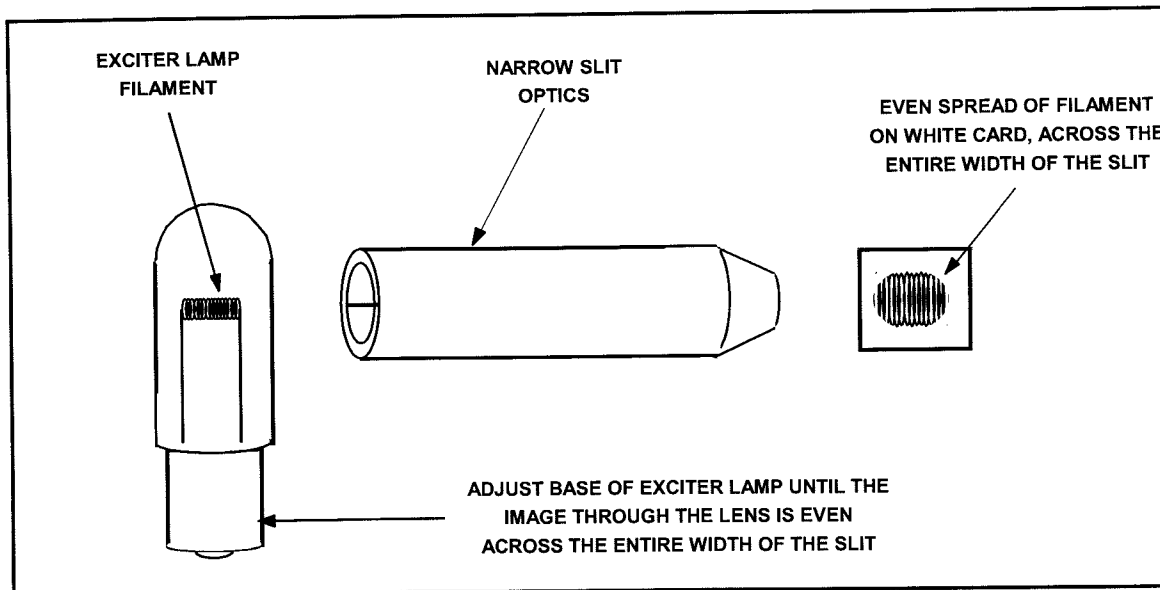

Figure 1: Preliminary mechanical alignment of exciter lamp and optics
3. Remove the solar cell and place a white card about an inch away from the sound lens. The image of the exciter lamp should look like Figure 1. If necessary, raise or lower the lamp and move it in and out until the filament is centred in the spot of light. This will ensure that the slit is evenly illuminated, thereby producing the least distortion. (*see Figure 1*).